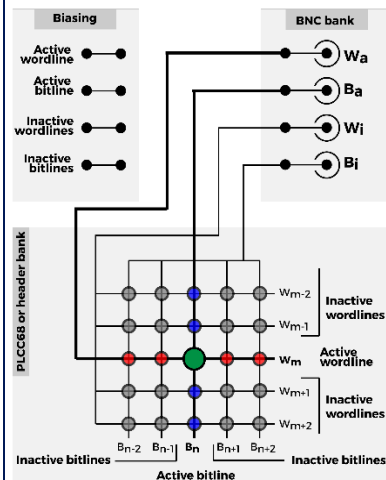

Figure 7: Live: BNC to Local session mode board connectivity.
3. **Live: BNC to Local** – in this operating regime the instrument's biasing circuitry is disabled and all voltage/current biasing to target devices is provided through the BNC terminals (Figure 7). The ArC platform only performs routing, i.e. directs bias voltages/currents from the BNCs to the selected device (in PLCC68 package or via header banks).